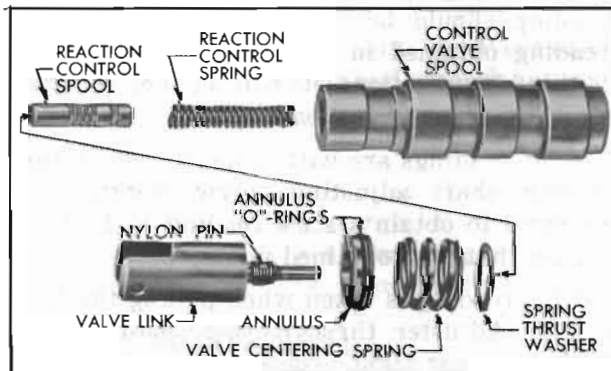

Figure 8-21—Control Valve Spool Assembly
2. Hold annulus down on spool to compress the spring. Then assemble link and tighten to 8-10 ft. lbs. using Remover and Replacer J 6224. See Figure 8-21. Remove the spool as-